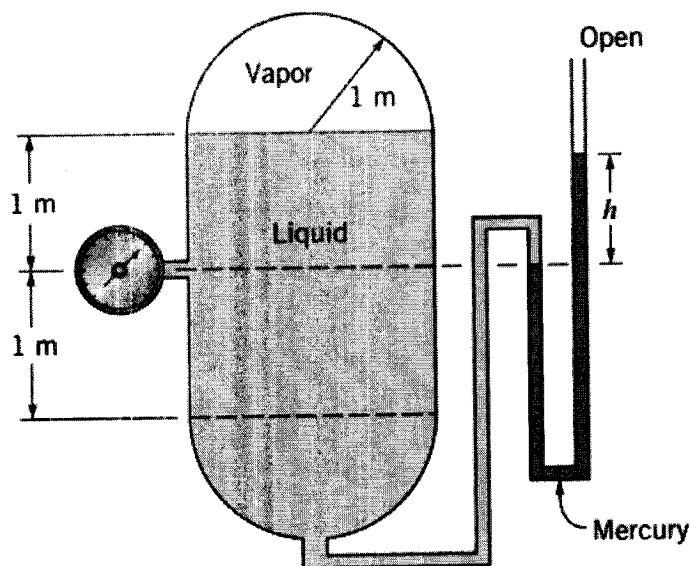

**Figure 1**
**TIME: THREE (3) HOURS**
- d) Using the specific energy diagram (Figure 1), indicate the head loss due to a hydraulic jump. **(4 marks)**